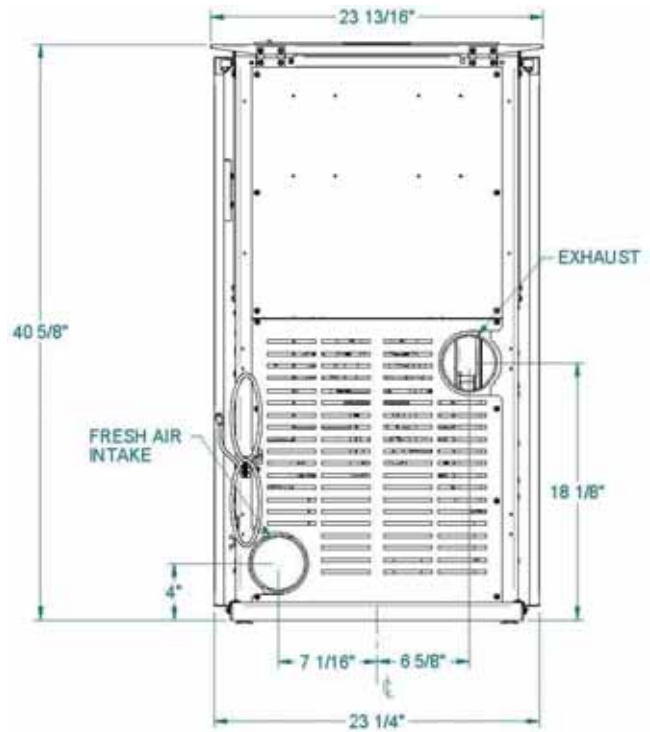
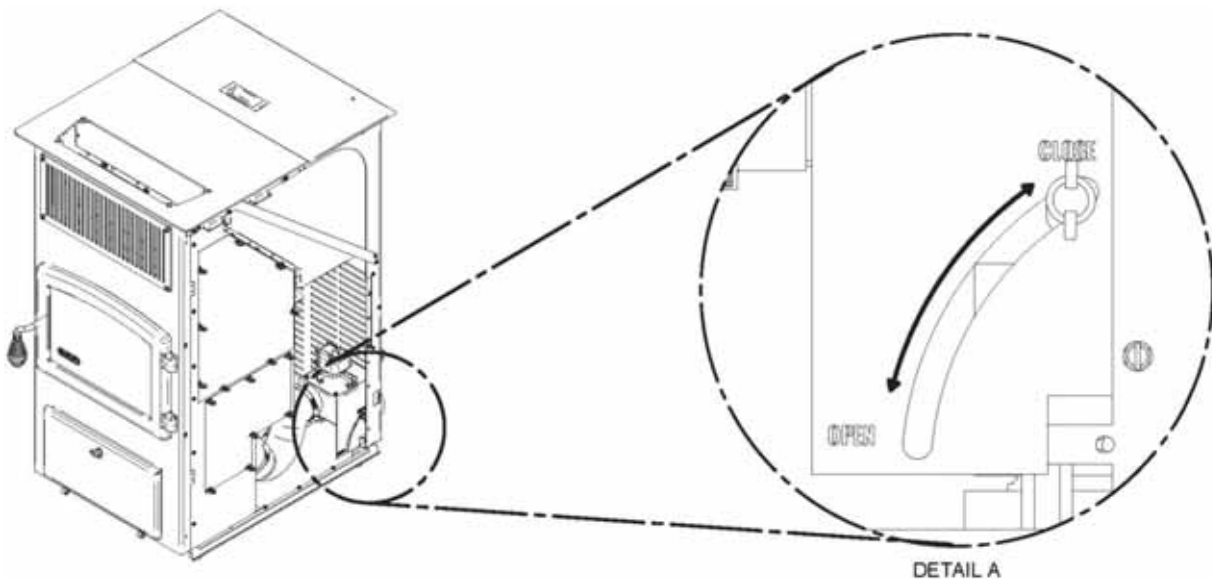

FIGURE 5
FIGURE 6.
It is mandatory to connect this stove to an outside combustion air source to reduce the risk of hopper burn back caused by negative pressure. A insulated 4" inside diameter metallic pipe, either flexible or rigid, must be attached to the inlet at the stove's rear (refer to figures 5, 6 & 7). A rodent guard (minimum ¼" wire mesh) must be used at the terminus (refer to figure 6). All connections must be secured and airtight by either using the appropriately sized hose clamp and/or UL-181-AP foil tape. Also make sure that the fresh air damper is open while the stove is running. The fresh air intake damper is located at the back of the stove right hand side (refer to figure 6.).
2. Locate position of hole in wall; directly behind stove exhaust vent (refer to figure 5).